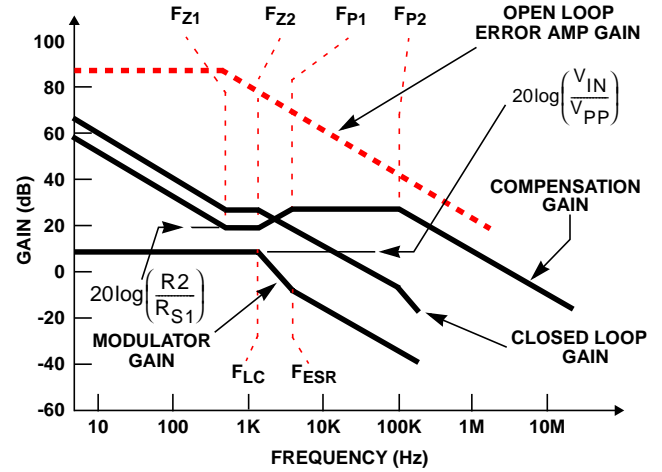

FIGURE 7. ASYMPTOTIC BODE PLOT OF CONVERTER GAIN
Figure 7 shows an asymptotic plot of the DC-DC converter's gain vs. frequency. The actual Modulator Gain has a high gain peak dependent on the quality factor (Q) of the output filter, which is not shown in Figure 6. Using the above guidelines should yield a Compensation Gain similar to the curve plotted. The open loop error amplifier gain bounds the compensation gain. Check the compensation gain at F_{P2} with the capabilities of the error amplifier. The Closed Loop Gain is constructed on the log-log graph of Figure 10 by adding the Modulator Gain (in dB) to the Compensation Gain (in dB). This is equivalent to multiplying the modulator transfer function to the compensation transfer function and plotting the gain.